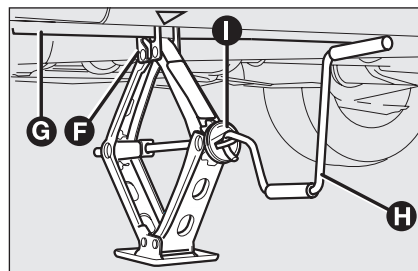

fig. 6
- ☐ position the jack close to the wheel to be changed, at the sign ▼ reported on the longeron **fig. 6**;
- ☐ fit the handle **H-fig. 6** into the jack device **I** and lift the car until the wheel to be changed is several centimetres off the ground; Turn the crank, take care that rotation takes place freely, with no risk of grazing hands due to friction with the ground. The moving parts of the jack (screws and joints) can also cause injury: do not touch them. If you come into contact with lubricating grease, clean yourself thoroughly;